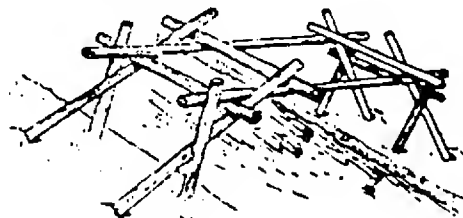

Figure 409 Friction Bridge
24. Friction Bridge: Build and use a friction bridge. See Figure 409.